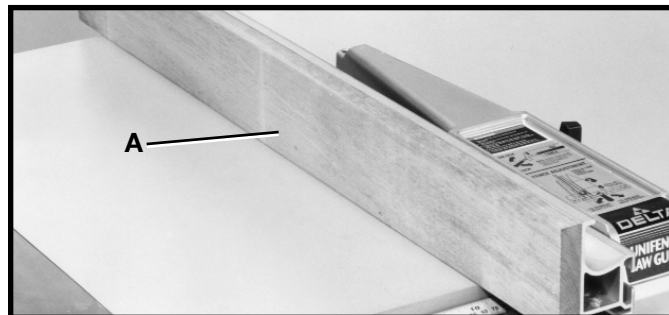

Fig. 66
It is necessary when performing special operations such as when using the moulding cutterhead to add wood facing (A) Fig. 66, to one or both sides of the rip fence. Depending on the fence, the wood facing is attached to the fence either with wood screws through holes drilled in the fence (as shown in Fig. 66) or with two clamps. For most work, 3/4" stock is suitable, although an occasional job may require one-inch facing.